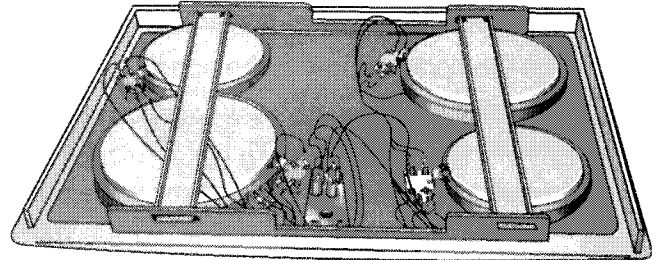

Fig. 21
2. Place the cooktop in the service position (Fig. 21).